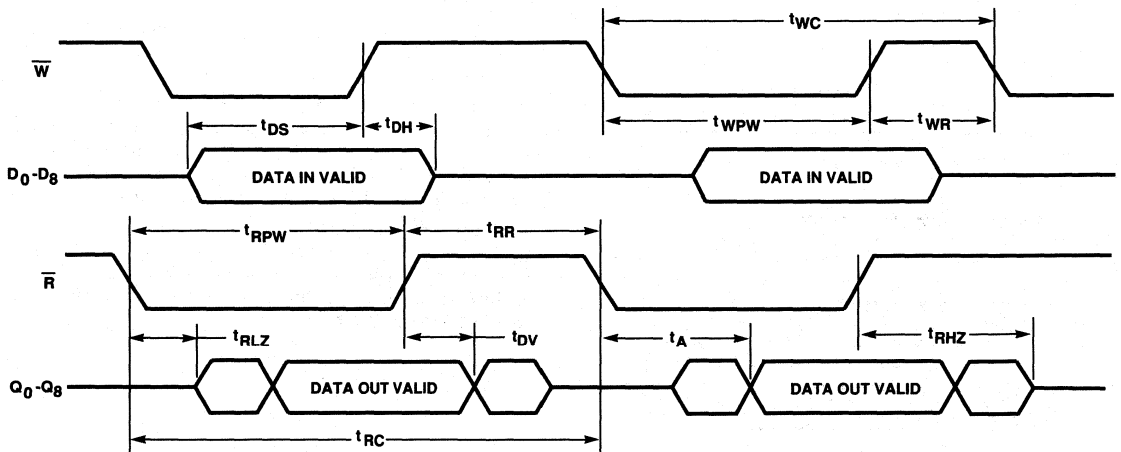

Figure 3. Asynchronous Write and Read Timing
The HIGH state of the Full Flag (\overline{FF}) indicates that the FIFO is capable of accepting data. The falling edge of Write (W) initiates a write cycle. (See Figure 3.) Data appearing at inputs D0-D8 t_{DS} prior to and t_{DH} after the rising edge of W will be stored sequentially in the FIFO.
The HIGH state of the Empty Flag (\overline{EF}) indicates that the FIFO is ready to output data. The falling edge of Read (R) initiates a read cycle. (See Figure 3.) Valid data appears on the outputs Q0-Q8 t_A after the falling edge of \overline{R} , and remains until t_{DV} after the rising edge of R. Q0-Q8 return to a high-impedance state when a valid read is not in progress.